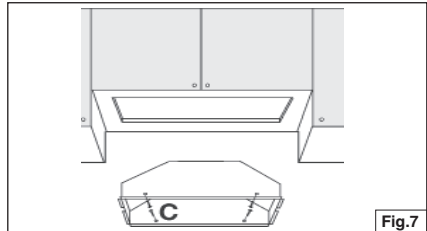

Fig. 7
4. Insert the hood in the cabinet (Fig.7 ) and lock into position using the side spring.
5. Secure the hood with (4) "C" mounting screws.